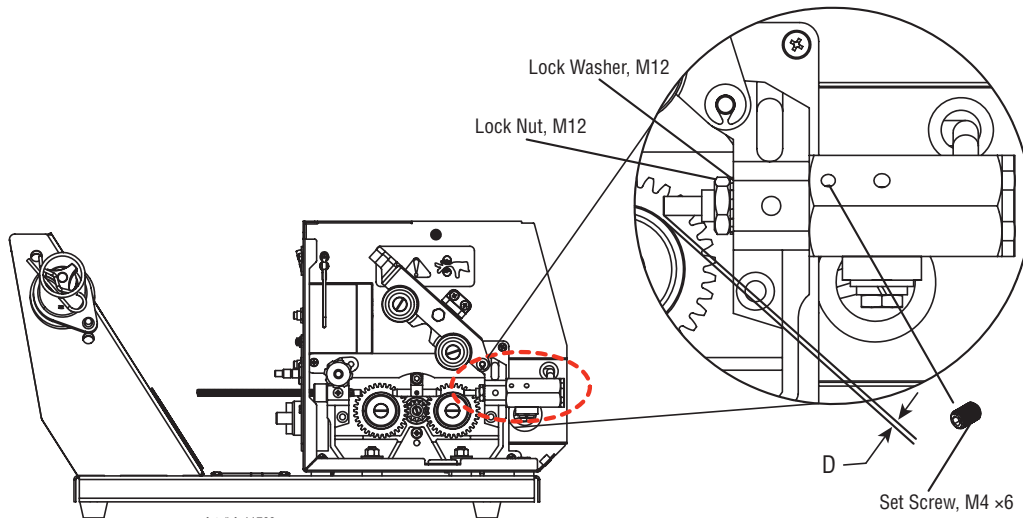

Figure 3-20
4. Push the outlet guide forward, to ensure that it has less than approximately 1mm clearance to the feed roll. Refer to "D" in Figure 3-20.